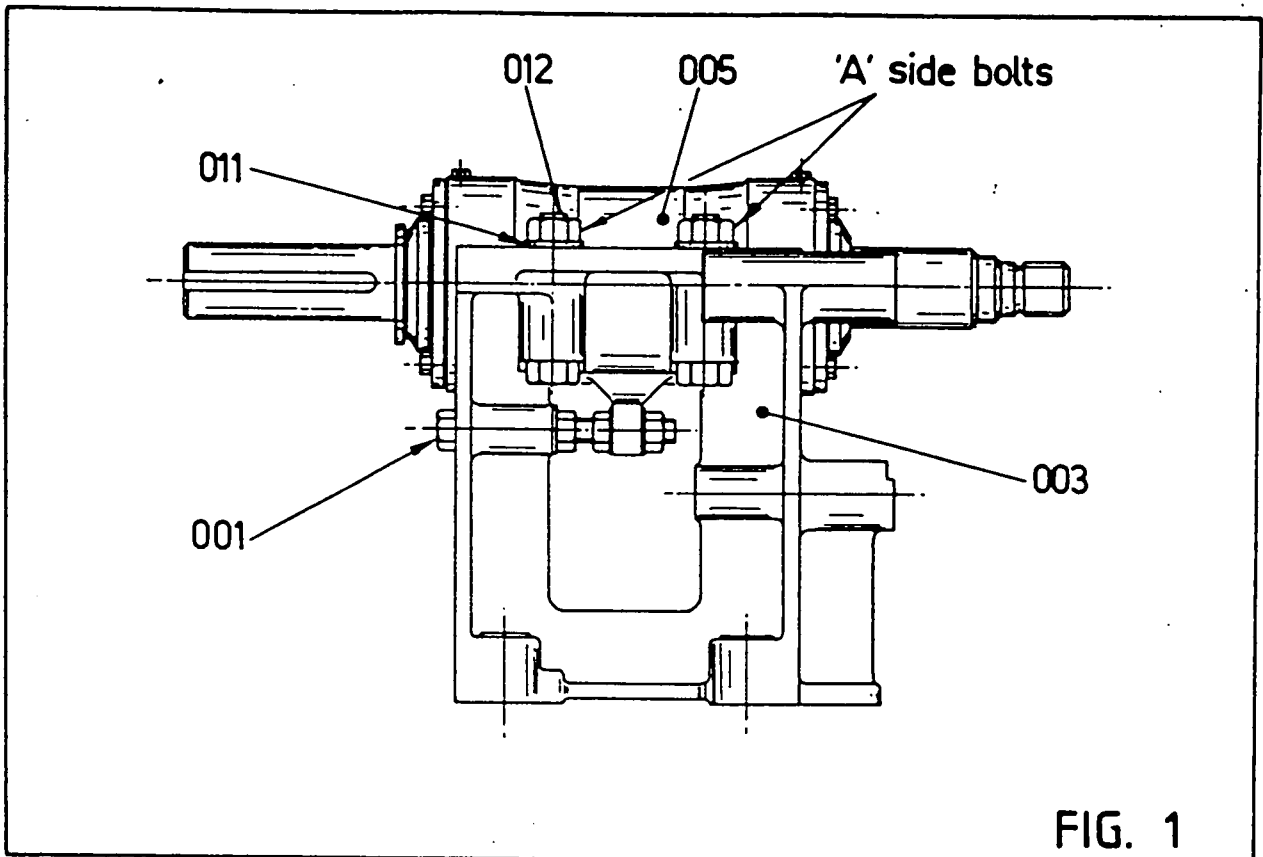

FIG. 1
6.1.1 FRAME ASSEMBLY: Fitting Bearing Assembly to Base - See Fig 1 & 9
Fully tighten Clamp Bolts on side 'A', ie. on left hand side of Base when looking from Impeller end (Refer to Fig 1 & 9). The bolts on the opposite side 'B' should not be tightened for the time being. Leave snug only, to maintain alignment but allow axial movement.